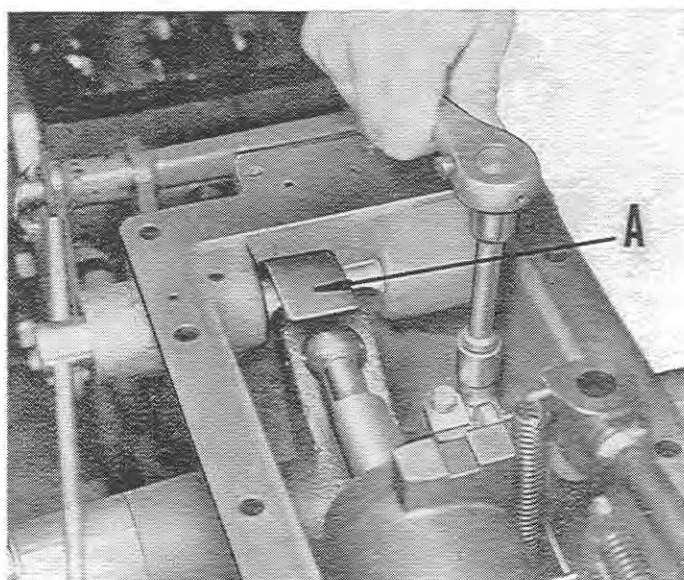

Fig. 22
- 2) Loosen the set screw clamping the secondary valve control collar mounted on the lift shaft (Fig. 22).